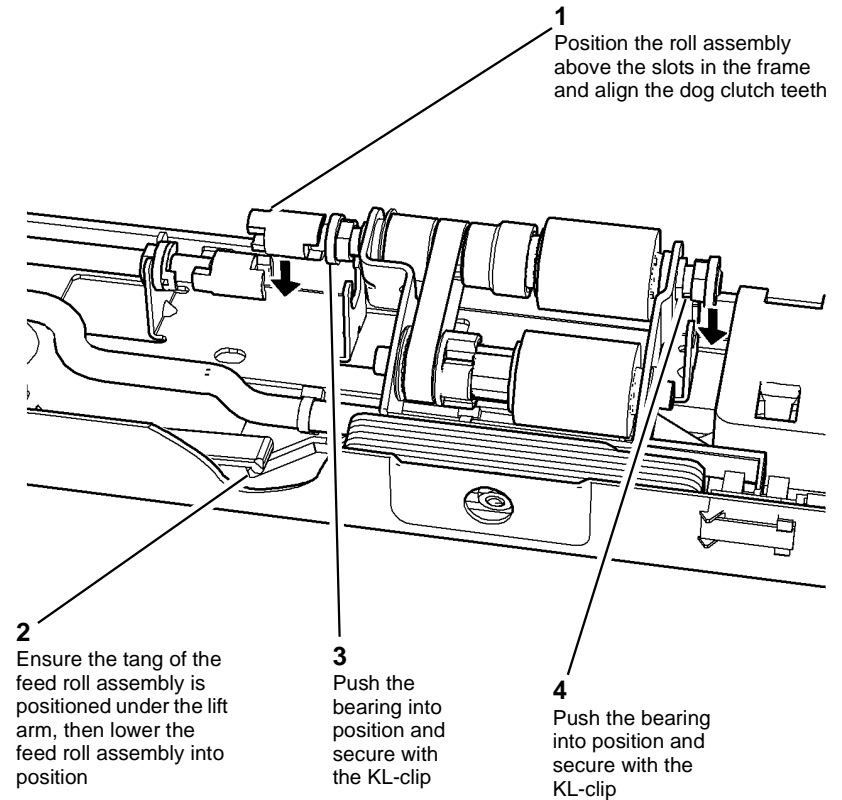

Figure 9 Nudger and feed roll install
4. Install the nudger roll and feed roll assembly, Figure 9.